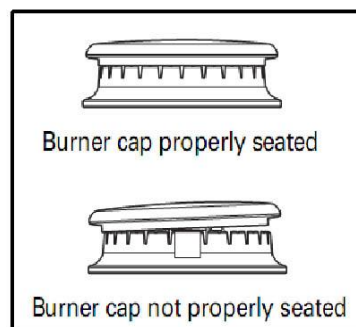

Figure 28
- 2) Make sure each burner cap is properly aligned and level. (See Figure 28)